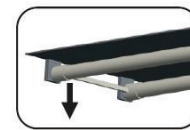

Fig:7
2) Remove fixture diffuser if present(Fig.7).
3) Remove the existing fluorescent lamps from your fixture(Fig.7).